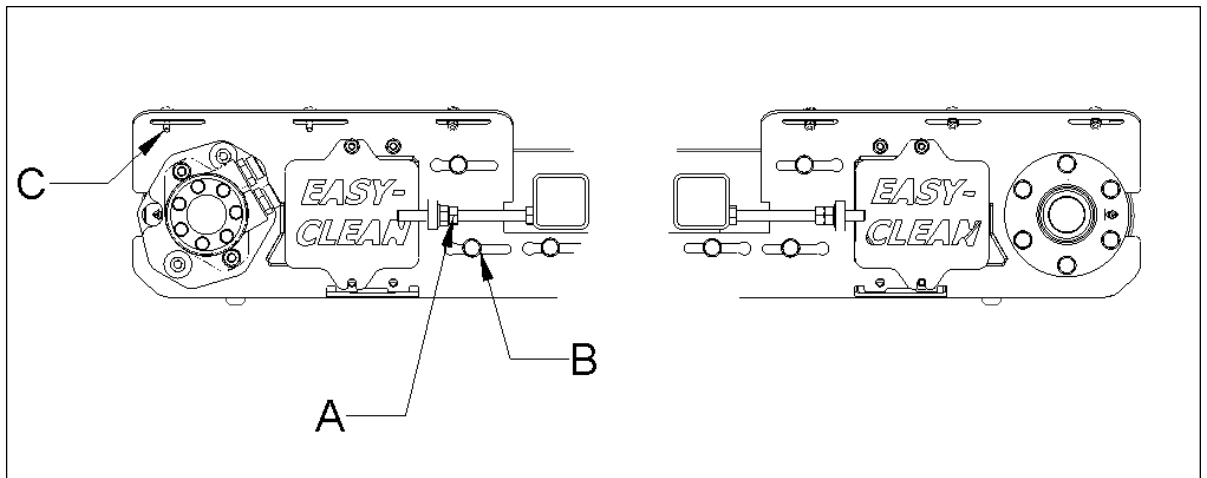

Fig. 4-3
Fig. 4-3 **Tightening of the conveyor belt** is carried out as follows: Adjust only the motor driven roller on the left hand side. First, loosen the nuts **B** and **C** (6 total on front and 6 total on back side of collector), second loosen counter nut **A** (1 on front and 1 on back side), then turn the other nut with a spanner, make sure the roller is moving out. Move the roller on front and back side of the collector the same distance.
- Fig. 4-3 Now loosen the belt by loosening bolt **A**, and then bolt **B**.